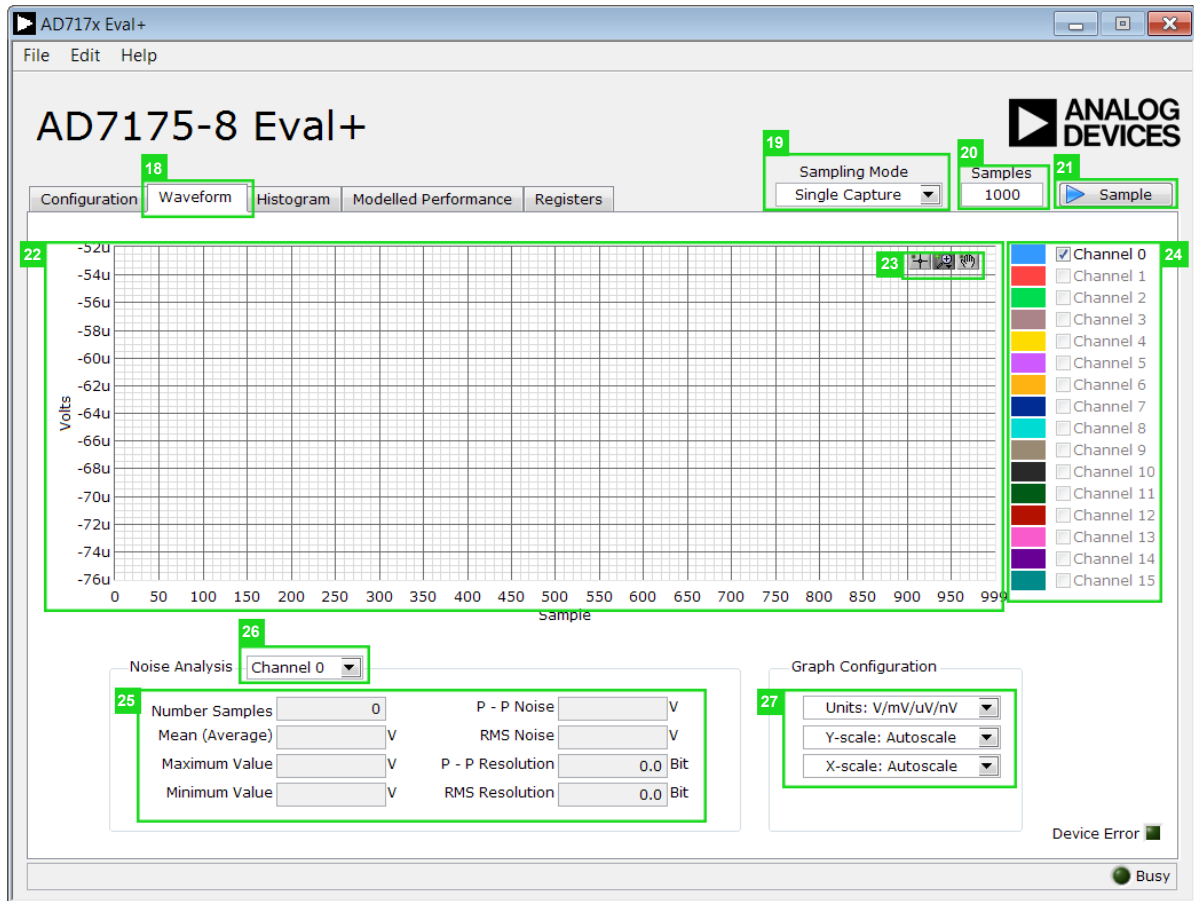

Figure 18. **Waveform** Tab of the AD7175-8 Evaluation Software
Figure 18 shows the **Waveform** tab of the AD717x Eval+Software.
Click the **Sample** button to start gathering ADC results. Results appear in the waveform graph (22). See Figure 18.
The data waveform graph shows each successive sample of the ADC output. Zoom in on the data using the control toolbar (labeled 23 in Figure 18). Click the x-axis and y-axis to change the scales on the graph.